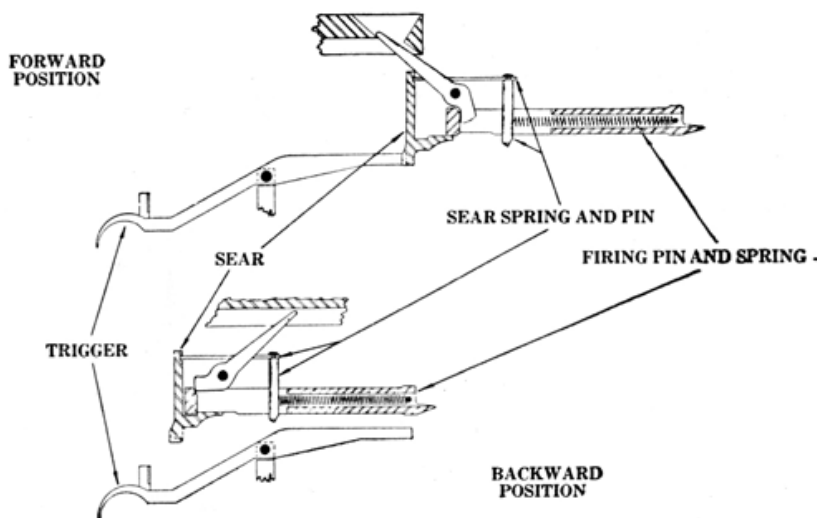

FIGURE 13.Cocking mechanism.
■33. COCKING ACTION (fig. 13).—AS the bolt moves backward, the upper end of the cocking lever is forced forward in the cocking lever recess, bringing the lower end to the rear. The lower end brings with it the firing pin, thus compressing the firing pin spring against the sear spring pin.